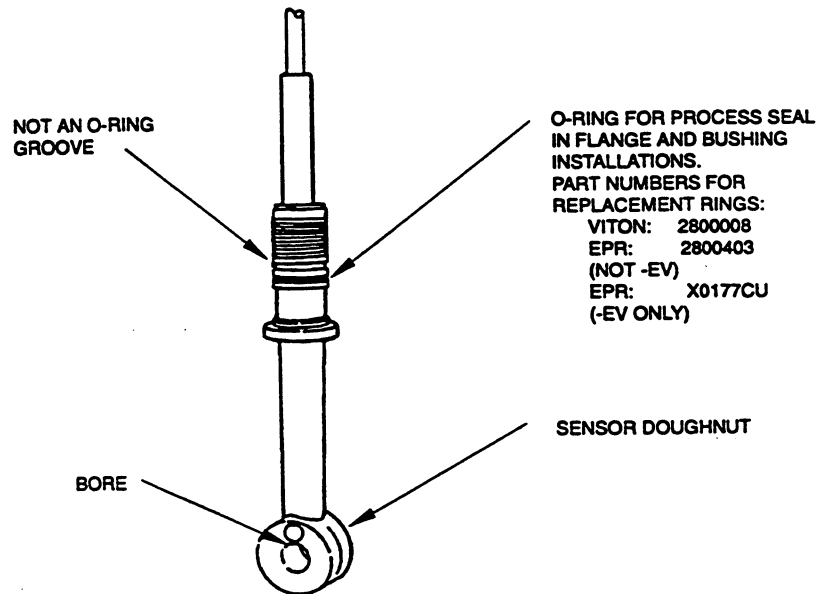

Figure 2. Sensor Types -NL, -SP, and -HP Mounting
This section applies to Sensor Types -NL, -SP, and -HP only (see Figure 2).
- 1. There are two grooves near the cable end of the sensor. The groove closest to the cable is **NOT** an O-ring groove and should remain unoccupied. The next groove, as shown in Figure 2, **IS** for the O-ring.*